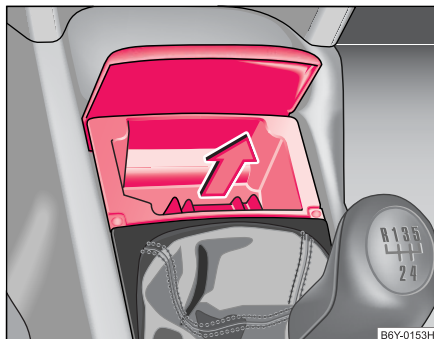

Fig. 65 Centre console: Ashtray at the front
- Fold out the ashtray cover and pull out the ashtray insert in the direction of arrow ⇒ fig. 65.